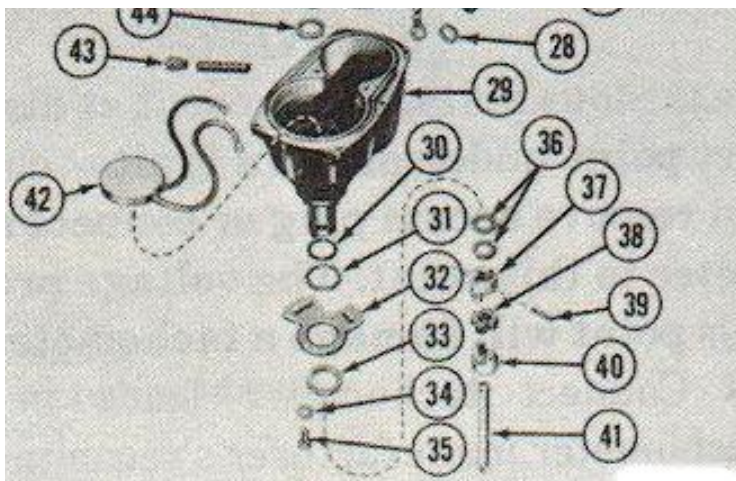

Figure 2-33. Ignitor-exploded view.
- (1) Remove six screws (58 fig 2-33) and remove cover (3 fig 2-33) and gasket (4 fig 2-33).
- (2) Disconnect leads from coil primary terminals.
- (3) Remove two screws (20 fig 2-33) and remove coil (21 fig 2-33) from ignitor housing (29 fig 2-33).
- (1) Remove ignitor cap (6 fig 2-33).
- (2) Remove rotor (7 fig 2-33)
- (3) Loosen screw (54 fig 2-33) and remove condenser lead.
- (4) Remove screw (51 fig 2-33) and remove condenser (52 fig 2-33).
- (5) Remove screw (9 fig 2-33) and remove breaker point base and arm (55, 56 fig 2-33).
- (1) Position breaker point base and arm (55 and 56 fig 2-33) and install screw (9 fig 2-33).
- (2) Adjust breaker point contact gap to .020-inch, + or - .002-inch.
- (3) Adjust breaker arm spring tension from 17 to 22 ounces. Refer to paragraph 2-51.
- (4) Install condenser (52 fig 2-33) on breaker plate and secure with screw (51 fig 2-33).
- (5) Attach condenser lead to terminal screw (54 fig 2-33) and tighten.
- (6) Install rotor.
- (7) Install ignitor cap.
- (1) Install ignitor coil into ignitor housing (21 fig 2-33).
- (2) Install screws (20 fig 2-33) and tighten securely.
- (3) Attach wires to coil primary terminals and tighten nuts.
- (4) Install ignitor cover (3 fig 2-33) and gasket (4 fig 2-33).
- (5) Install six lock washers and screws (58 fig 2-33) and tighten securely.
- (6) Connect battery cable to battery negative terminal.